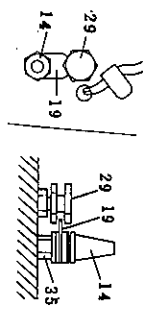

Fig. 36
Adjust (19) and (29) STOP BOLTS so as to set (19) STOP PLATE as shown in Fig. 36.